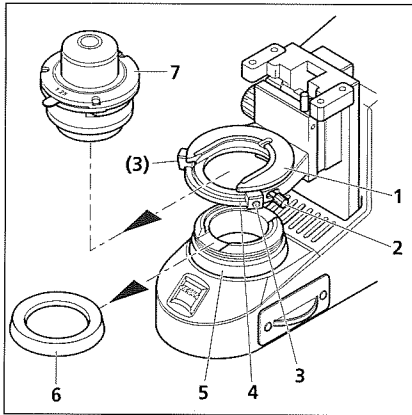
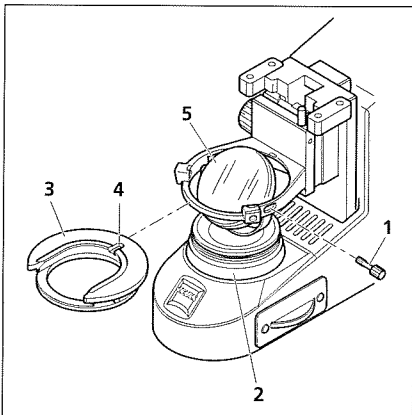

Fig. 15 Removing/installing the condenser
Fig. 16 Installing/removing the illuminating mirror
- Remove cover cap (Fig. 15/6) from luminous-field diaphragm (Fig. 15/5).
- Using an Allen key, loosen the clamp screw (Fig. 15/2) of the condenser and the centering screws (Fig. 15/3) of the condenser carrier (Fig. 15/4) so that the condenser (Fig. 15/7) can be removed frontward. Remove the condenser (Fig. 15/7).
- Unscrew clamp screw (Fig. 15/2 or Fig. 16/1) from condenser carrier insert (Fig. 15/1 or Fig. 16/3).
- Push the condenser carrier backward against the spring and inclining it remove it upward from the condenser carrier (Fig. 15/4).
- Insert the mirror (Fig. 16/5) from top through the aperture of the condenser carrier and place it onto the mount of the luminous-field diaphragm (Fig. 16/2). Take care that the mirror rests level on the mount.
- Remove the mirror (Fig. 16/5) upwards through the aperture of the condenser carrier.
- Slightly incline the condenser carrier insert (Fig. 15/1 or Fig. 16/3) to insert it in the aperture of the condenser carrier. In doing so, press the unit backward against the spring and place it horizontally onto the condenser carrier.
- Screw the condenser clamp screw (Fig. 16/1) into the condenser carrier insert.
- Taking care that the locating screw on the rear side of the condenser fits in groove (Fig. 16/4) of the condenser carrier insert, put the condenser into this insert.
- Turn the two centering screws (Fig. 15/3) to adjust the illuminated image symmetrically to the edge of the field of view.